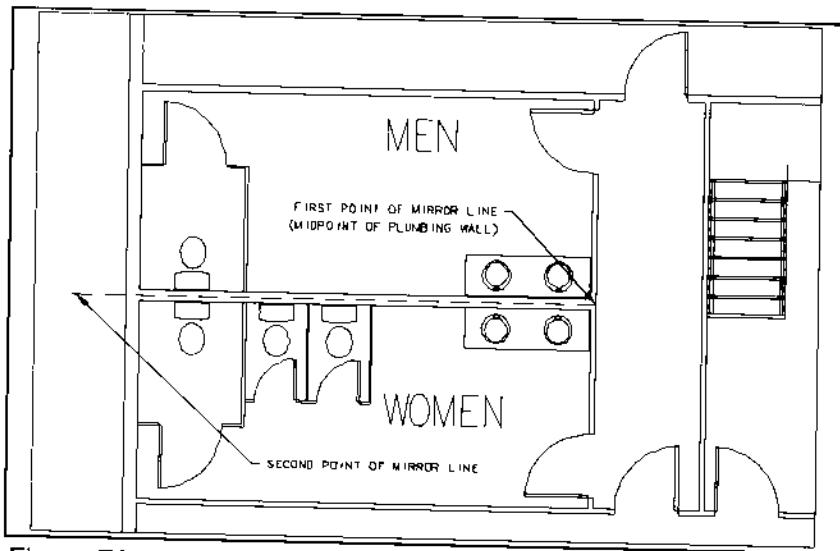

Figure 76.
3. Mirror the handicap stall and the countertop along the common plumbing wall, as shown in Figure 76. Pick each element of the figures you wish to mirror.